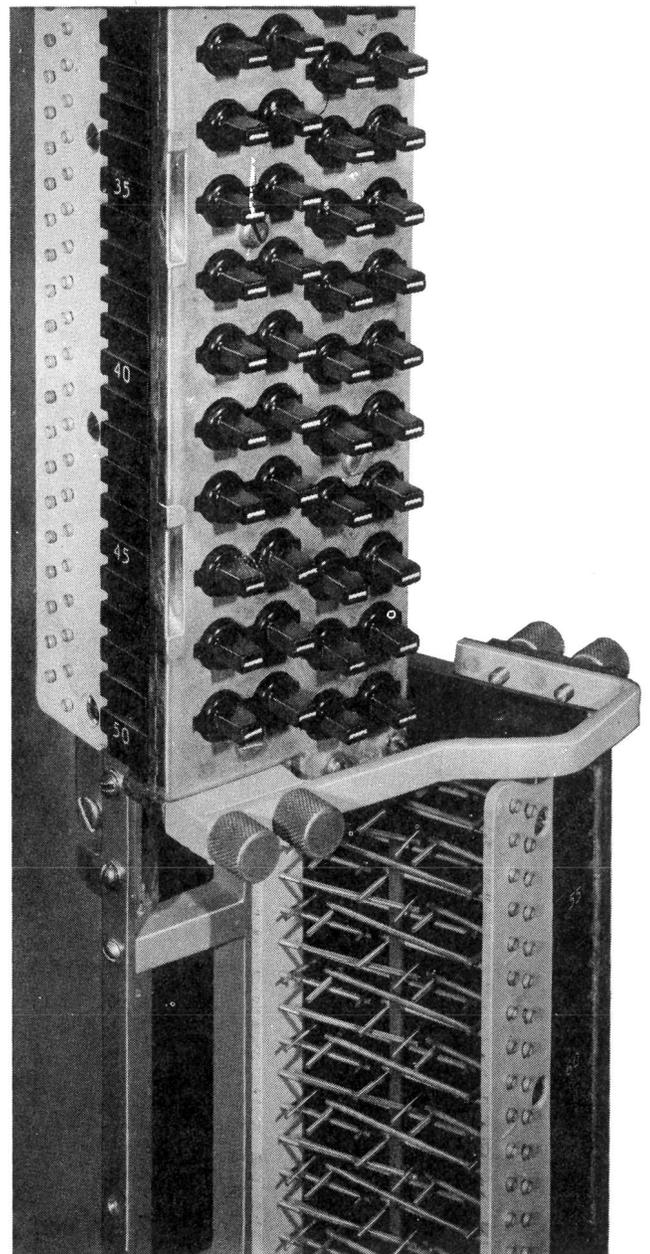

Fig. 9—73 Bracket Supporting a 300-Type Connector
3.05 To make any replacement of these parts, it will be necessary to remove a 50-pair section of the connector from the frame. Before doing this provide a suitable ground from the front plate to the frame. Then remove the screws that attach faceplate of the connector to the mounting brackets. Rotate the connector toward the fanning strip. Attach the 73B bracket to the top of the connector unit and to the mounting bracket as shown in Fig. 9. The superseded 73A bracket is installed in the same manner but cannot be used on 300-type connectors with attached fanning strips.